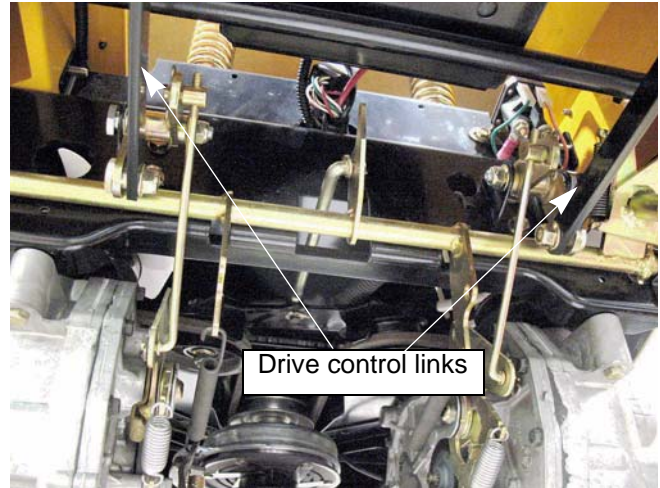

Figure 8.31
6. Remove the nut and bolt that attach the drive control links to the drive bell cranks using a pair of 1/2" wrenches. See Figure 8.31.